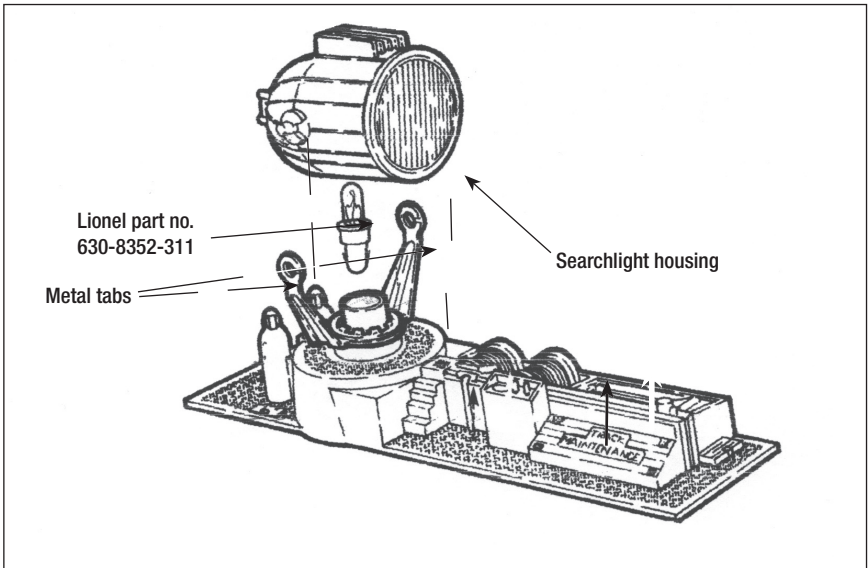

Figure 3. Lamp replacement
The searchlight is on whenever the car is powered up on the track. To prolong the life of the lamp, we recommend that you keep the track voltage at a lower range, from seven to fifteen volts. Rotate the metal bracket and the searchlight housing (refer to Figure 3) to aim the searchlight.
1. Gently pull the two arms of the metal bracket away from the searchlight housing to lift the housing away. Refer to Figure 3.